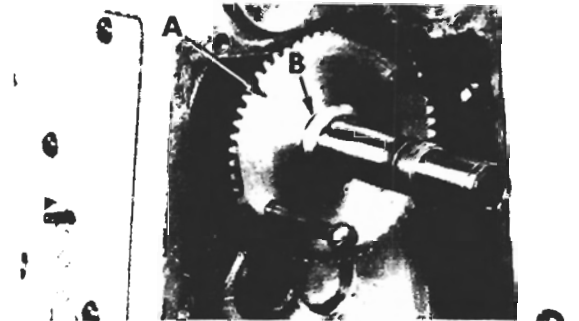

Figure 30
16. Install spindle back gear (A, fig. 30).
17. Slide collar (B) with "O" ring on spindle and against the back gear.